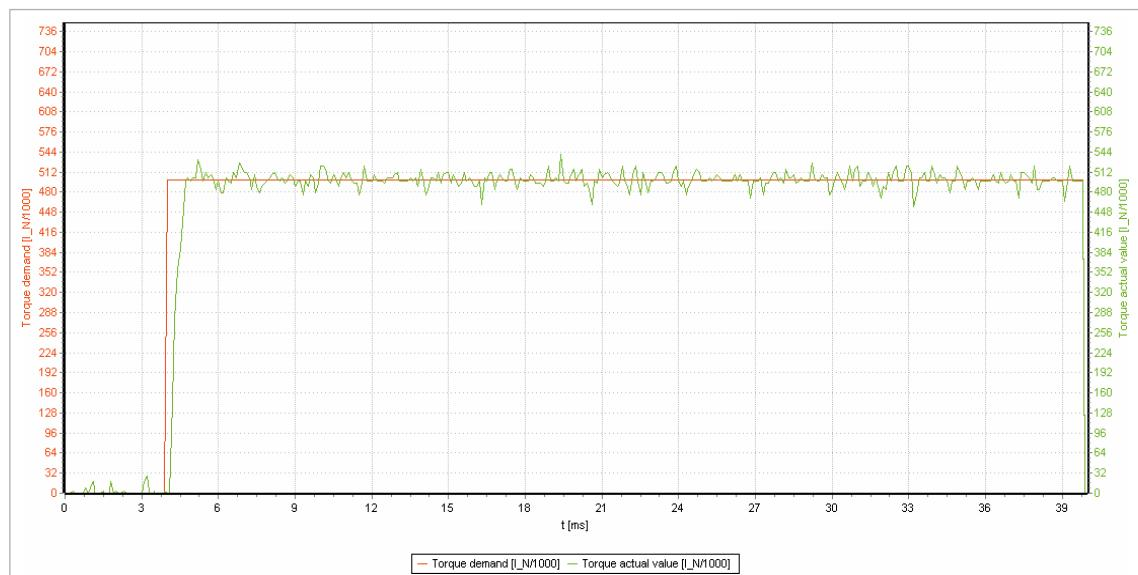

Fig. 6: Setpoint jump at the torque controller
- i** For manual optimisation of the current controller, apply setpoint value jumps to the current controller with the motor stopped and braked, and adjust the controller gain accordingly (see Fig. 6).